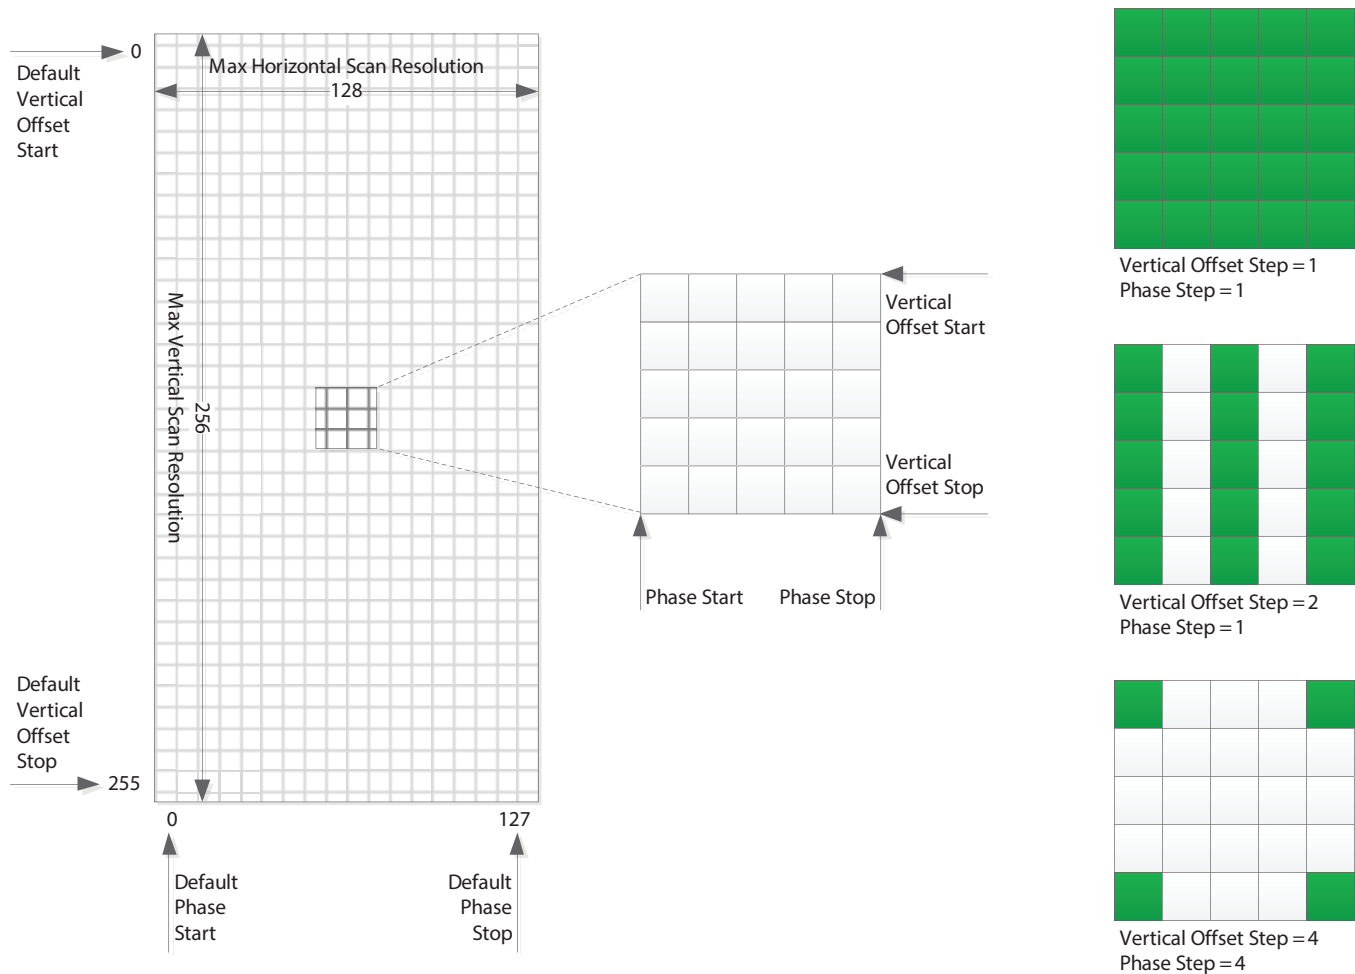

Figure 4-6: Eye Scan Matrix Parameters
Figure 4-6 shows a visual representation of the scan matrix and indicates the spatial parameters that determine the scan area and resolution. Running a scan using the default offset and step parameters, results in 32768 (128x255) samples. The number of samples and thus, the total scan time can be reduced to meet the needs of the application. The scan area can be reduced by reducing the span determined by the vertical and phase start and stop offsets, or the resolution can be reduced by increasing the step size between adjacent samples. On the right in Figure 4-6, there are three step settings used as examples, however there are a total of nine combinations possible. See Table 4-5 for the register addresses and parameter names of the spatial eye scan parameters.
- ♦ Making reference to the Matrix shown in Figure 4-6, the eye scan data starting at 0x6CC3 is stored in order from left to right, top to bottom, from the last stored vertical/horizontal position in the matrix.